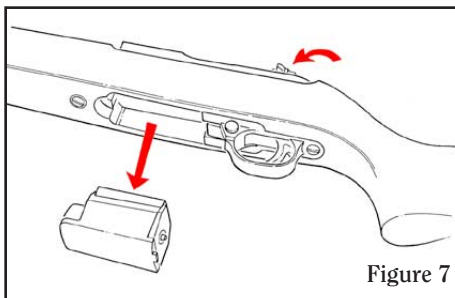

Figure 7
1. With the rifle pointing in a safe direction, remove magazine, open the slide and visually make certain there is not a cartridge in the chamber. Then allow the slide to close. The rear sight leaf should be down, and the hammer should be cocked. (See Fig. 7).